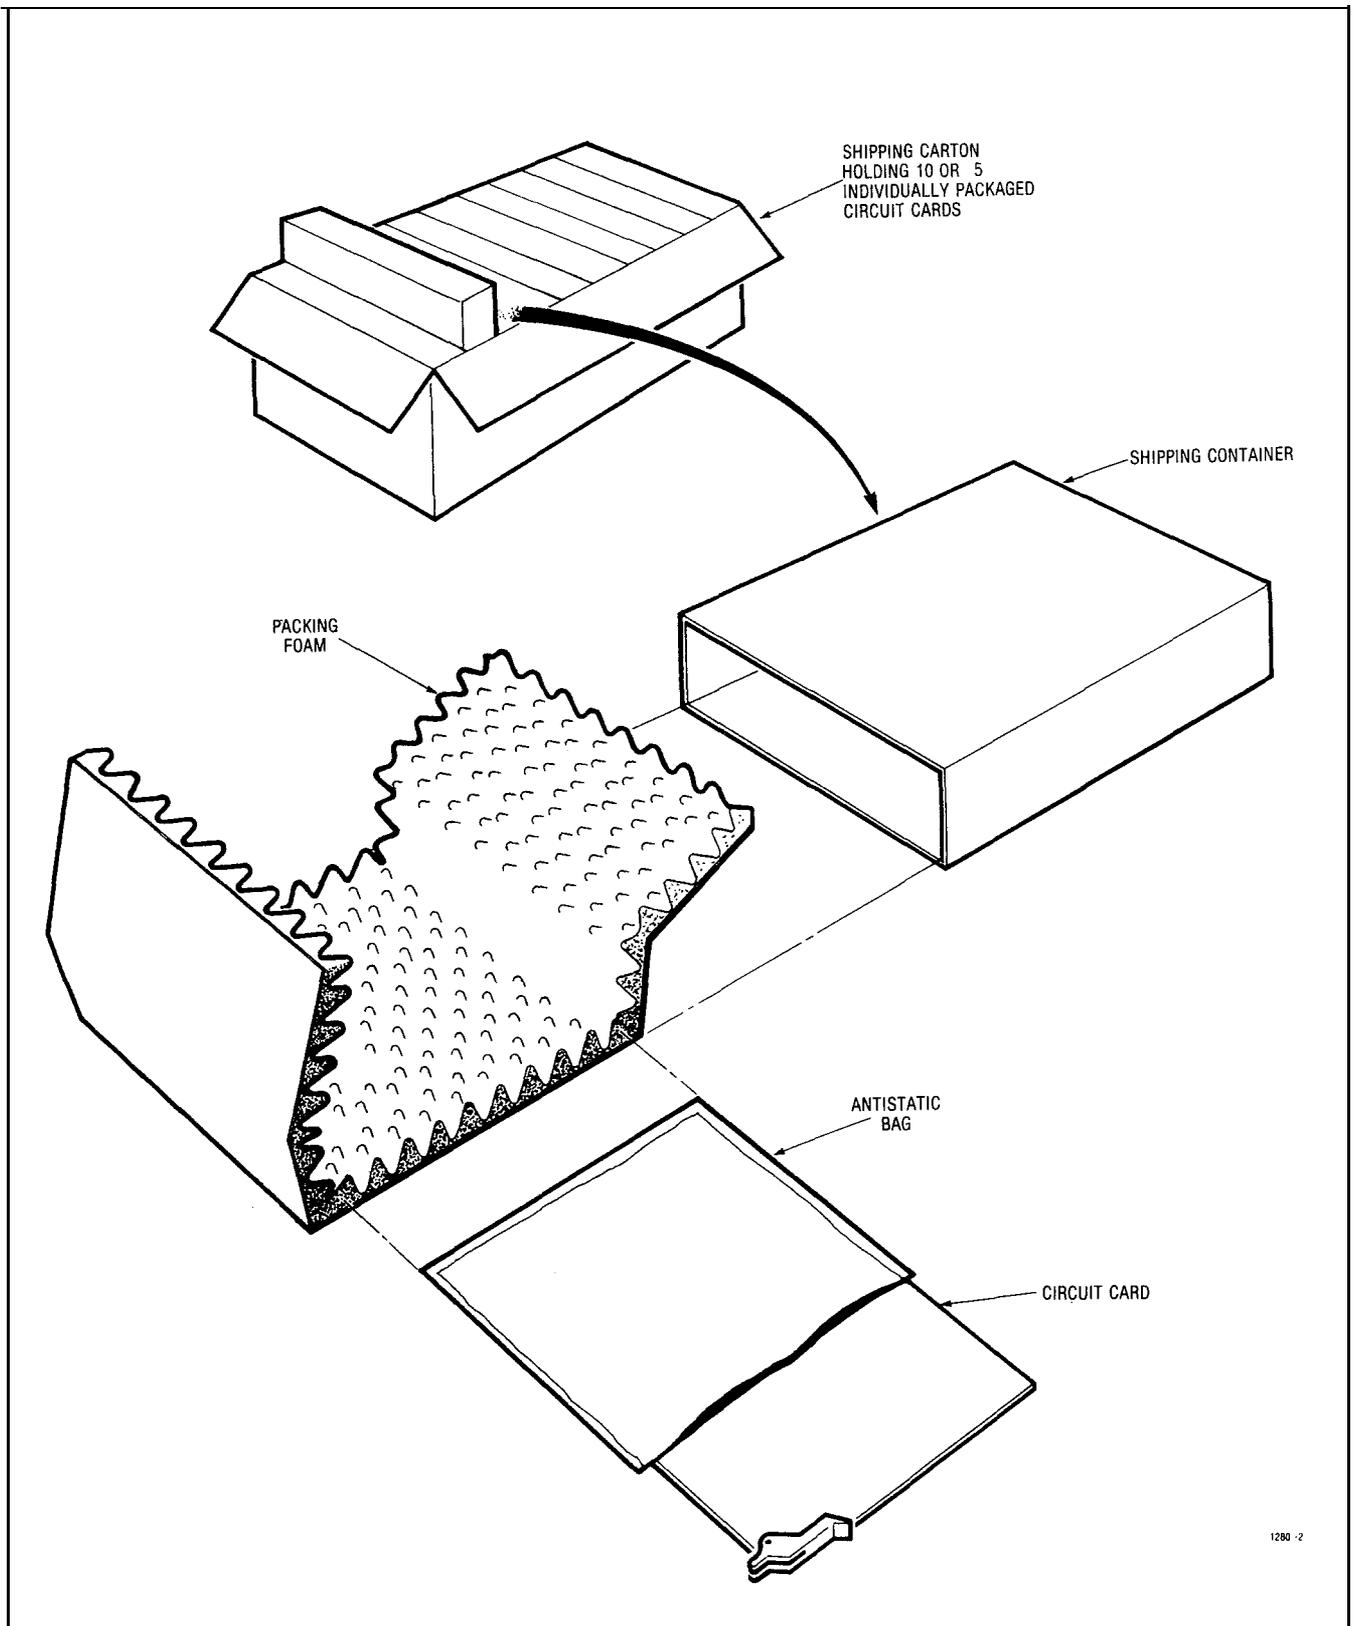

Fig. 4-5 Circuit Card Packaging
4.05 All printed circuit cards, if shipped separately, are packaged as shown in Fig. 4-5. If a large number of circuit cards are to be shipped, they are individually packed and shipped in groups of ten per carton.